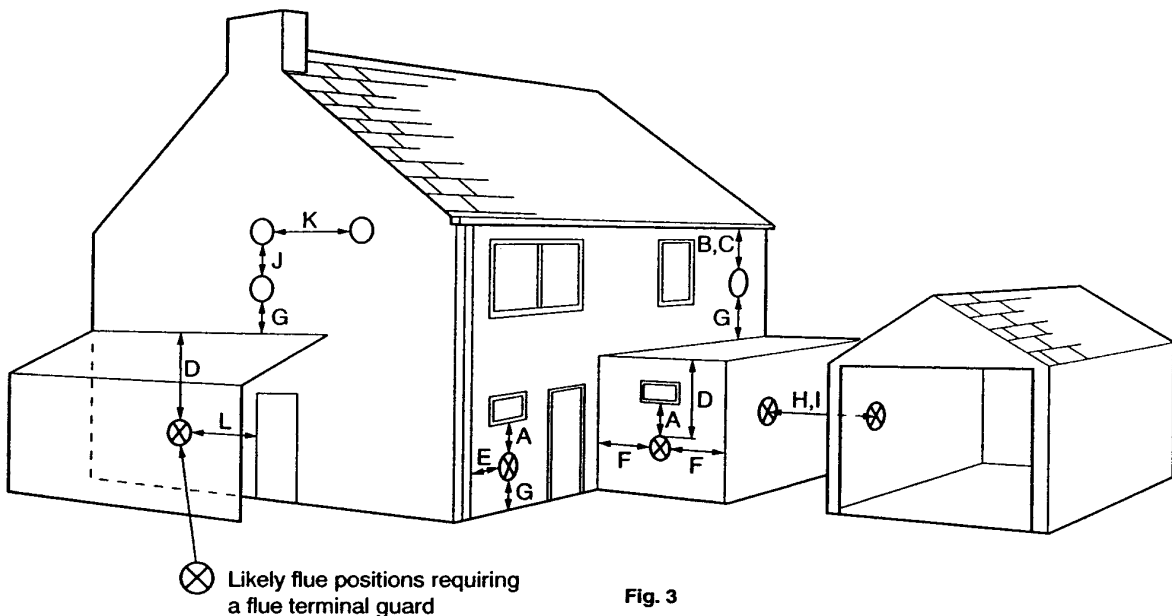

Fig. 3
2. The flue terminal must be located in a suitable position on an outside wall taking into consideration the dimensions shown in Fig. 3.